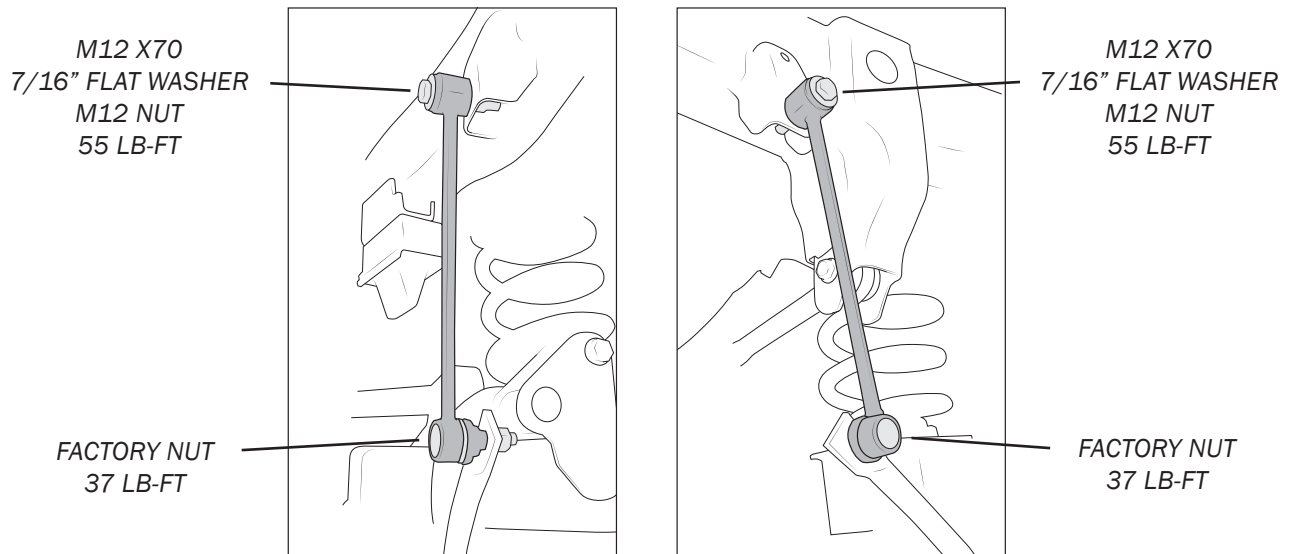

Figure 16
7. Install AEV sway bar links with the factory nut at the axle end and the supplied hardware at the frame Torque as specified (fig. 16).